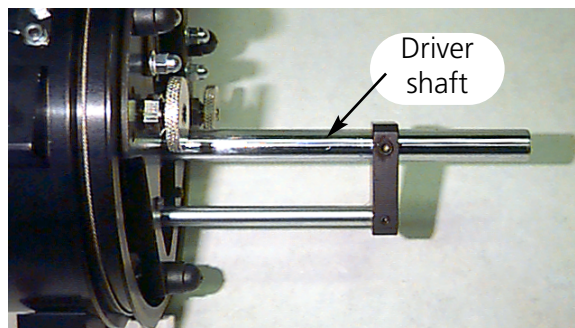

Figure 4-25
3. If you are using a Wide-Angle Cap Frame, the message **Wide-Angle Driver Shaft** will appear; press . Remove the wide-angle driver from the peripheral. Wipe the lint off the driver shaft (see Figure 4-25).